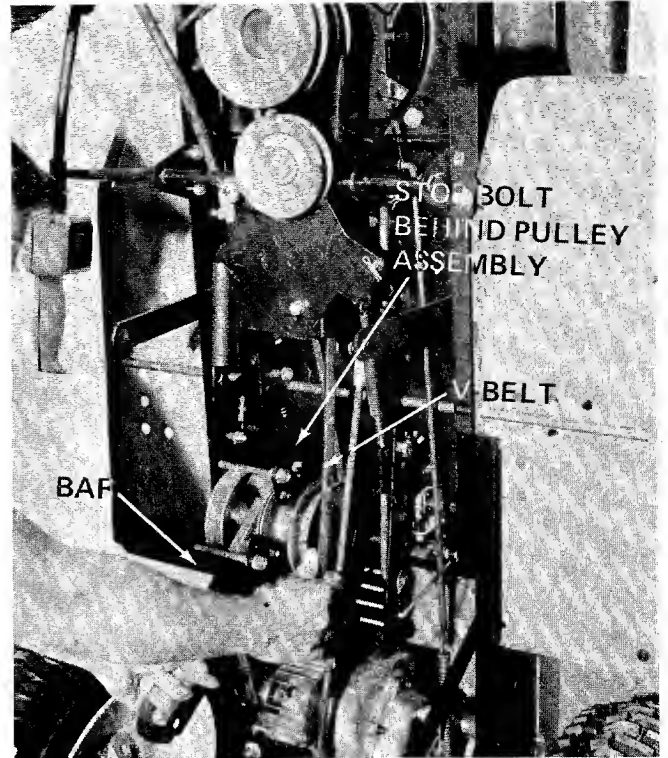

FIGURE 21.
6. Using a bar or large screwdriver, pry the pulley assembly towards the front of the tractor and unhook the belt from the pulley. See figure 21.